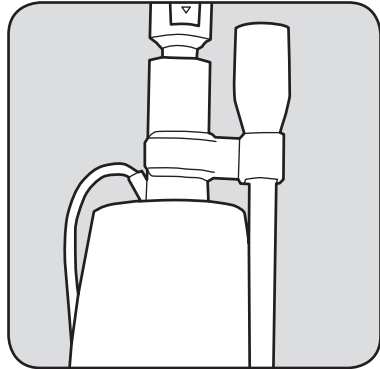

Fig. 2
2. Attach the tool caddy to the neck of the body, then insert the crevice tool into the caddy. (Fig. 2)